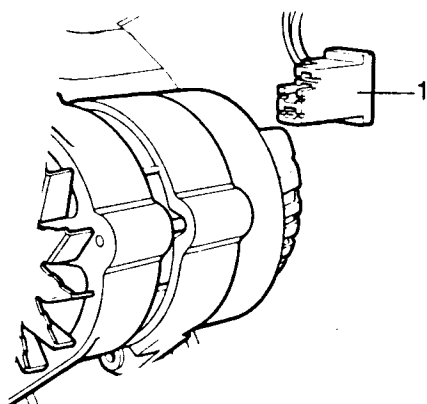

Fig B4.13
- (23) Refer to Fig B4.13. Disconnect the electrical leads (1) at the alternator.